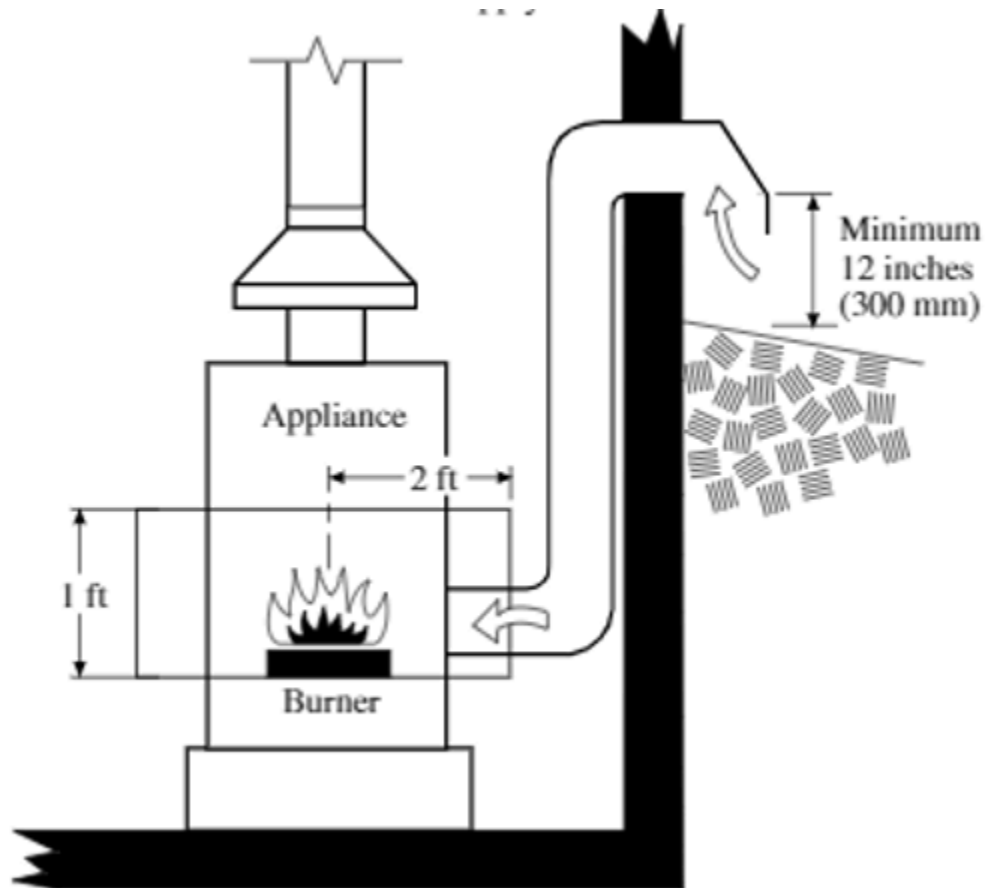

Figure 11. Passive air supply terminations
The passive air supply inside termination must be located within 2 ft (600 mm) horizontally and not more than 1 ft (300 mm) above, the burner level of the gas appliance (Figure 11). If there is more than one gas appliance in the area, the air supply will be located at the one with the largest input. This ensures that the air supply is dedicated to the appliance(s) served and will not be influenced by other equipment in the structure that also need outside air.
- Figure 11. “Passive air supply terminations” – The source for this image is unknown. It is